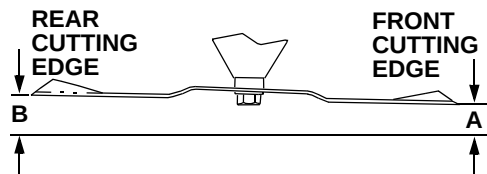

Figure 52
- Accessing the right hand blade through the discharge chute opening, measure the distance from the front cutting edge to the ground (measure A), and from the rear cutting edge to the ground (measure B). The front edge of the blade (measure A) should be between equal with its back edge (measure B) and lower by a maximum of 1/4 inch. See Figure 52.